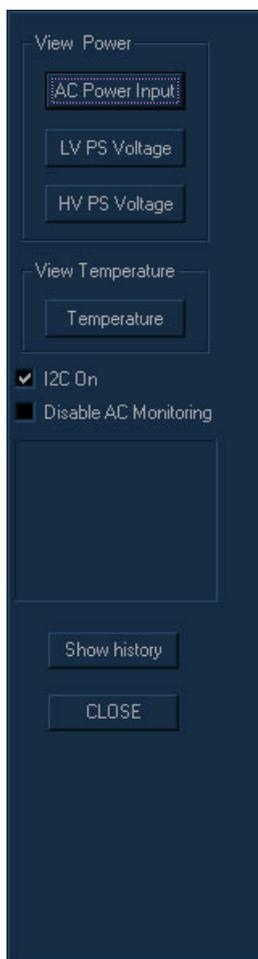

Figure 7-36 View Power Options
- 3) Trackball to the **Monitor** button and press **Select**. The *View Power* options are displayed, as shown in Figure 7-36 on page 7-61.